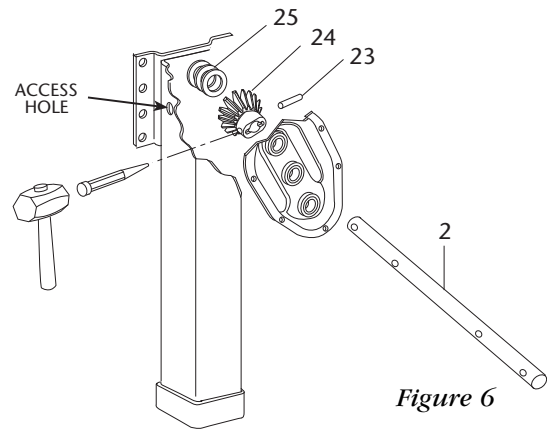

Figure 6
6. Place a punch in the access hole, align it with the bevel pinion gear groove pin (**Item 23**) and drive out the groove pin (see **Figure 6**).